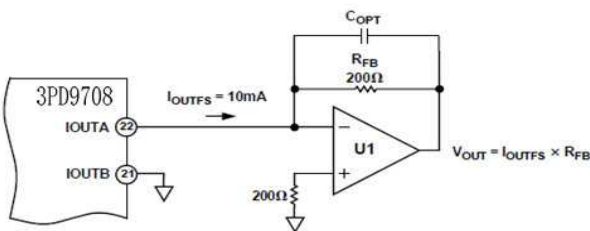

Figure 16. Unipolar Buffered Voltage Output
Alternatively, an amplifier could be configured as an I-V converter thus converting I_{OUTA} or I_{OUTB} into a negative unipolar voltage. Figure 16 shows a buffered singled-ended output configuration in which the op amp, U1, performs an I-V conversion on the 3PD9708(E) output current. U1 provides a negative unipolar output voltage and its full-scale output voltage is simply the product of R_{FB} and I_{OUTFS} . The full-scale output should be set within U1's voltage output swing capabilities by scaling I_{OUTFS} and/or R_{FB} . An improvement in ac distortion performance may result with a reduced I_{OUTFS} , since the signal current U1 will be required to sink and will be subsequently reduced. Note, the ac distortion performance of this circuit at higher DAC update rates may be limited by U1's slewing capabilities.